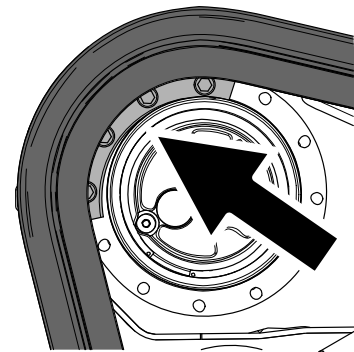

Figure 76
- Move the traction control forward until the drive sprocket segment engages with the track (Figure 76).
- Apply thread-locking compound to the bolts of the other drive sprocket segment that you removed and install the sprocket segment (Figure 76). Torque the bolts to 247 to 301 N·m (182 to 222 ft-lb).